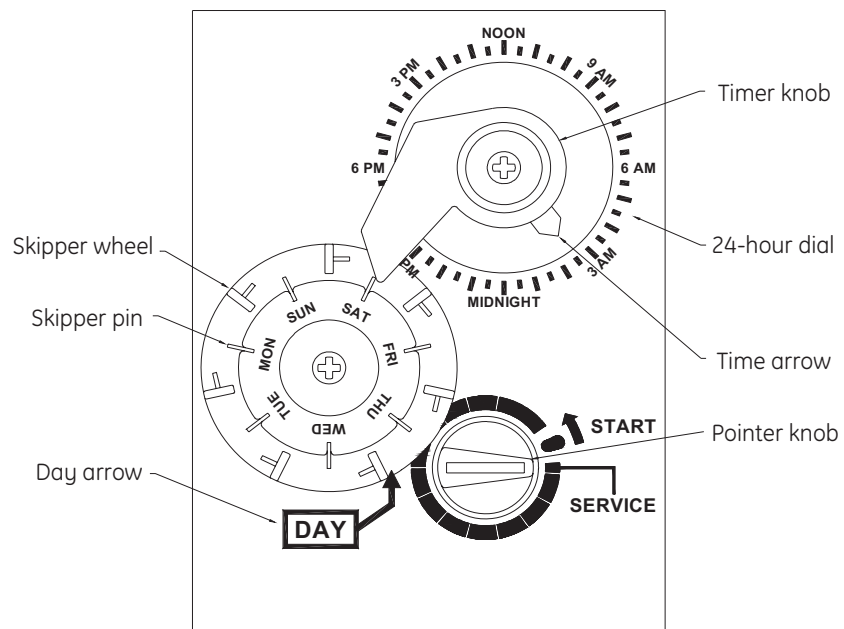

Figure 2 A100 Timer Faceplate
1. Pull all skipper pins outward away from dial face (see Figure 2).
Open enclosure. Depress RED BUTTON and turn counterclockwise to the START position (see Figure 2).
Timer and Stager are out of sequence.	<ul style="list-style-type: none"> <li>• Check that the number of pins that are in the “UP” position on the timer pinwheel (Figure 2), match EXACTLY the number of notches in the stager cam assembly</li> <li>• Make sure that there are no wires coming in contact with the pinwheel assembly.</li> <li>• Manually rotate the stager assembly to the “Service” position. Then, check the operation of the timer pinwheel assembly by depressing and then releasing the micro-switch located on the pinwheel. You can repeat this for each step of the regeneration cycle to ensure that the stager and timer are working properly.</li> <li>• Verify the connections of the “Homing” feature. (If Applicable, See Figures 3 and 4)</li> </ul>